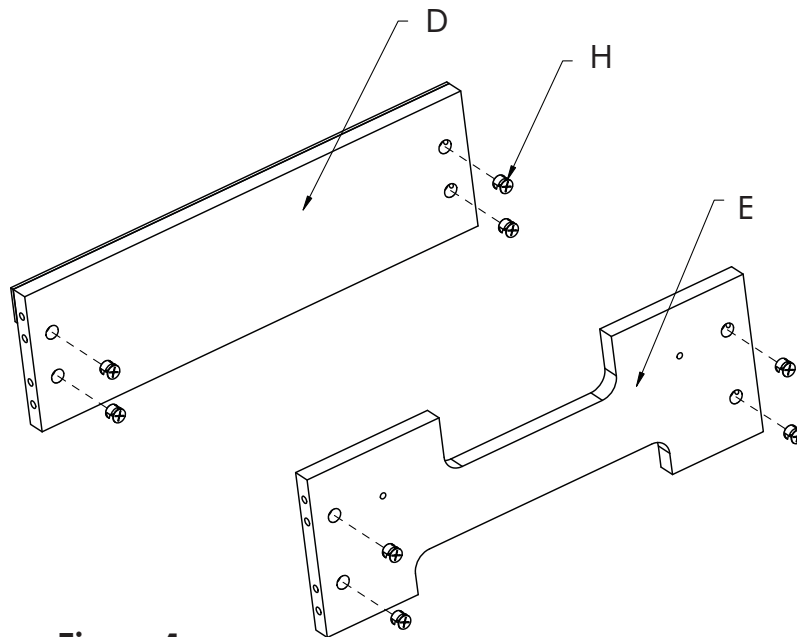

Figure 1
- Insert **Cam Locks (H)** into pre-drilled holes of **Front and Back Rails (D, E)**.
- Refer to figure 1.